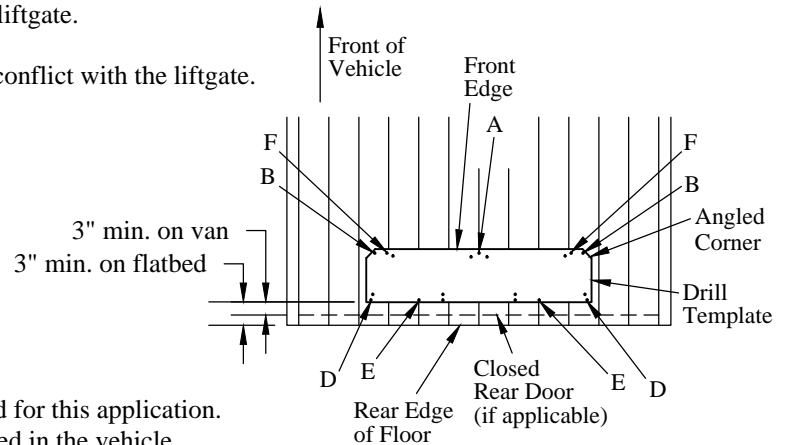

Figure 5: Drill template location (top view).
4. **Place** the drill template in the rear of the vehicle (Figure 5):
6. **Drill** 3/8" holes in nine (9) locations in the template. Drill "A", "B", "D", "E", and "F" locations only, skip all others (Figure 5). Insert a 3/8" bolt into each hole as it is drilled to maintain hole alignment and template position.
- Location previously determined in these instructions (Figure 5).